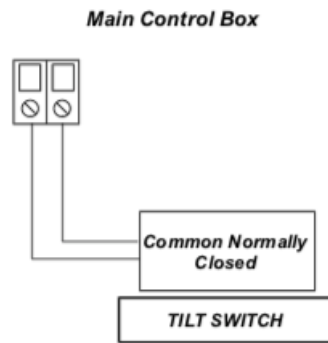

Figure 50: Tilt switch wiring schematic
- Connect the Tilt Switch to the Auto Sash Control Unit. See the wiring schematic in section 6.9 and Figure 50.
- Link out / connect the relevant terminals on the Auto Sash Control Unit when not using a Tilt Switch. See the wiring schematic in section 6.9 and Figure 50.